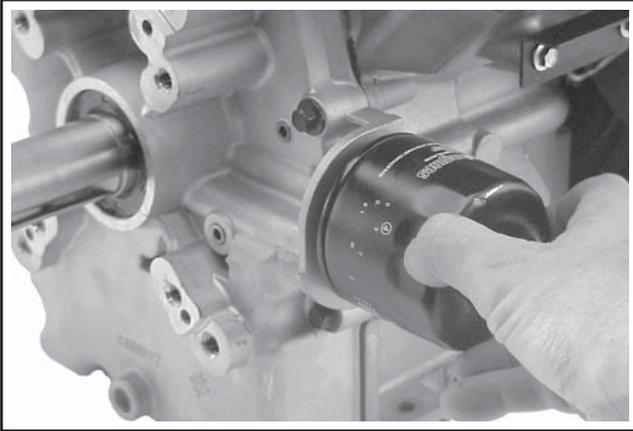

Figure 11-121. Installing Oil Filter.
3. Install the new oil filter to the filter adapter or oil cooler. See Figure 11-121. Refer to instructions on the oil filter for proper installation.